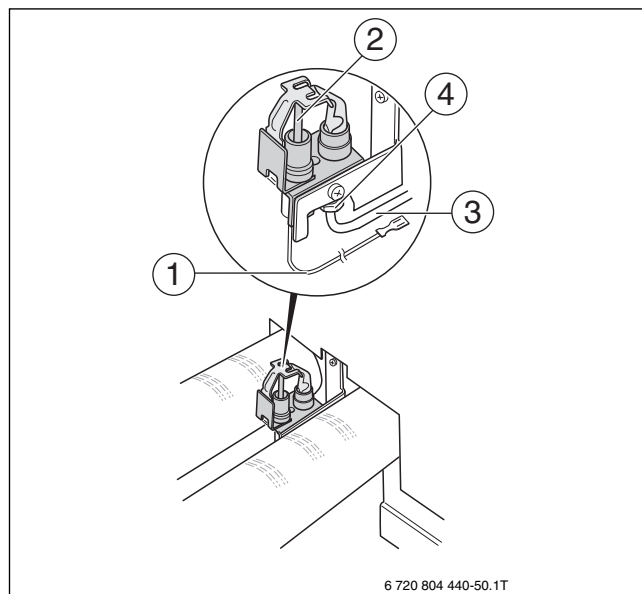

Fig. 39 Ignition burner
- ▶ If the flame is too small, the pilot orifice needs cleaning (→ figure 39, page 23). If the igniter flame is acceptable, start cleaning.